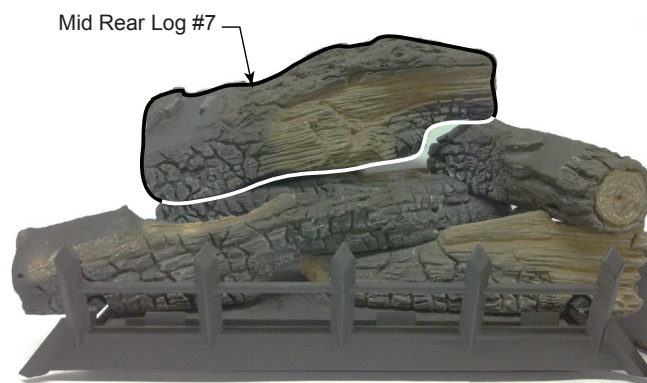

Figure 55
7. Place mid rear log (#7) on bottom rear log (#1) and mid right log (#6) by placing notch on bottom of log onto locating block on log #1. Right side of log will rest on log #6. Figure 55